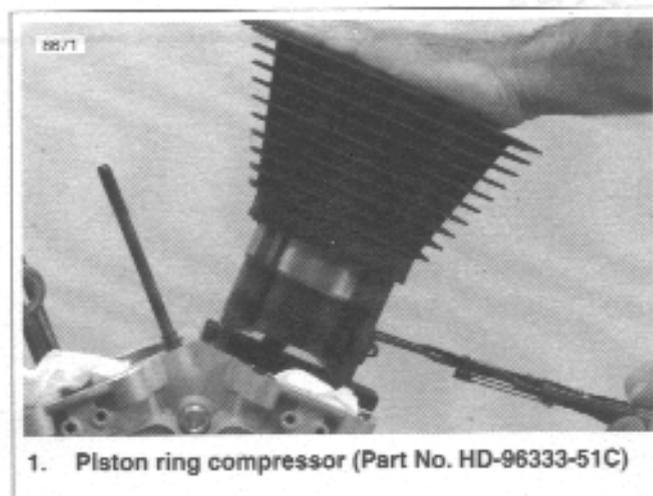

Figure 3-111. Compressing Piston Rings
9. See Figure 3-111. Compress the piston rings using PISTON RING COMPRESSOR (Part No. HD-96333-51C).